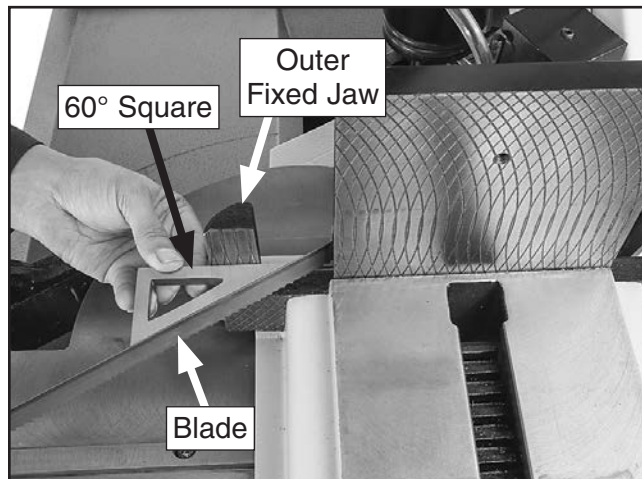

Figure 100. Example of using 60° square to check 60° stop (left 60° stop check shown).
6. Place 60° square between outer fixed jaw and blade, as shown in **Figure 100**. Square should fit snugly against outer fixed jaw and blade.